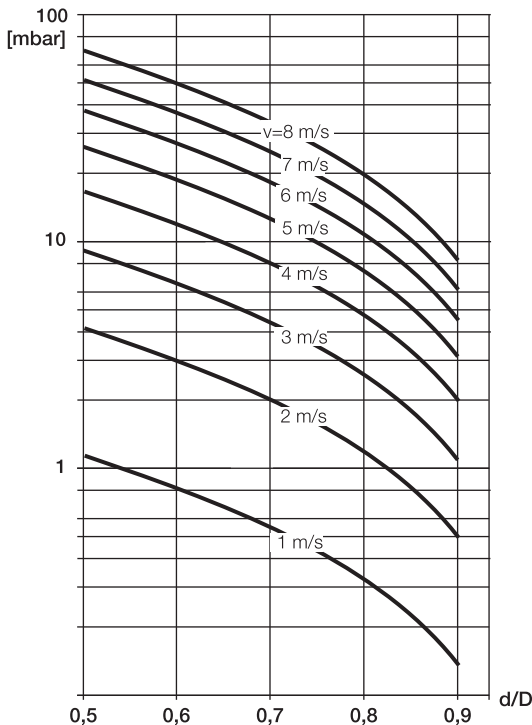

Fig. 20: Flow rate nomogram for pressure drop calculations for flange transition piece with $\alpha/2 = 8^\circ$
2. Determine the flow velocity based on the flow rate nomogram (Fig. 20).
3. Read the pressure drop on the Y-axis in Fig. 20.